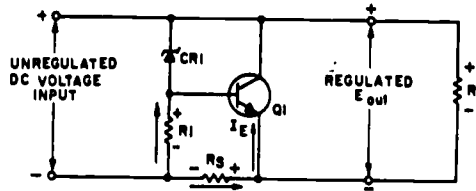

Fig 4-37. Shunt voltage regulator.
The schematic shown in figure 4-37 is that of a shunt voltage regulator. Notice that Q1 is in parallel with the load. Components of this circuit are identical with those of the series voltage regulator except for the addition of fixed resistor R_S . As you study the schematic, you will see that this resistor is connected in series with the output load resistance. The current limiting resistor (R1) and Zener diode (CR1) provide a constant reference voltage for the base-collector junction of Q1. Notice that the bias of Q1 is determined by the voltage drop across R_S and R1. As you should know, the amount of forward bias across a transistor affects its total resistance. In this case, the voltage drop across R_S is the key to the total circuit operation.
Figure 4-38 is the schematic for a typical shunt-type regulator. Notice that the schematic is identical to the schematic shown in figure 4-37 except that voltages are shown to help you understand the functions of the various components. In the circuit shown, the voltage drop across the Zener diode (CR1) remains constant at 5.6 volts. This means that with a 20-volt input voltage, the voltage drop across R1 is 14.4 volts. With a base-emitter voltage of 0.7 volt, the output voltage is equal to the sum of the voltages across CR1 and the voltage at the base-emitter junction of Q1. In this example, with an output voltage of 6.3 volts and a 20-volt input voltage, the voltage drop across R_S equals 13.7 volts. Study the schematic to understand fully how these voltages are developed. Pay close attention to the voltages shown.
6. In figure 4-37, the voltage drop across R_5 and R_1 determines the amount of base-emitter _____ for Q_1 .